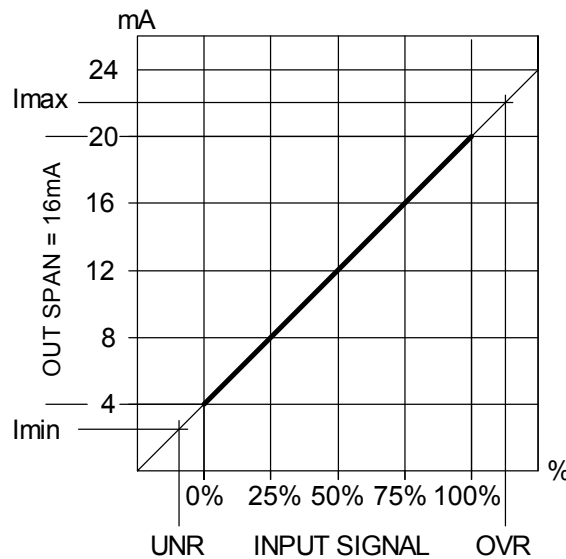

Figure 4: Sensor Input Signal vs Transmitter Output Current
- 3. **Transmitter:** This is the device used to transmit data from a sensor over the two-wire current loop. There can be only one Transmitter output in any current loop. It acts like a variable resistor with respect to its input signal and is the key to the 4-20mA signal transmission system. The transmitter converts the real world signal, such as flow, speed, position, level, temperature, humidity, pressure, etc., into the control signal necessary to regulate the flow of current in the current loop. The level of loop current is adjusted by the transmitter to be proportional to the actual sensor input signal. An important distinction is that the transmitted signal is not the current in the loop, but rather the sensor signal it represents. The transmitter typically uses 4mA output to represent the calibrated zero input or 0%, and 20mA output to represent a calibrated full-scale input signal or 100% as shown in Figure 4 below: